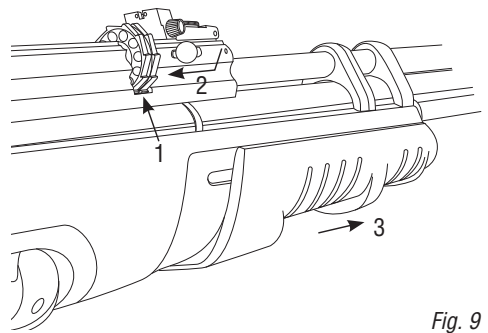

Fig. 9
4. Assemble back the loaded magazine. Then release the magazine release bolt so that it locks at the rear. (Fig. 9). If necessary rotate the magazine counter-clockwise until its movement is arrested by the magazine stop.
5. Push back the forearm slide as shown in Fig. 9.
8. To reload rifle, pull the forearm slide fully and close so the next pellet is indexed with the barrel. Then repeat above items 6 & 7.